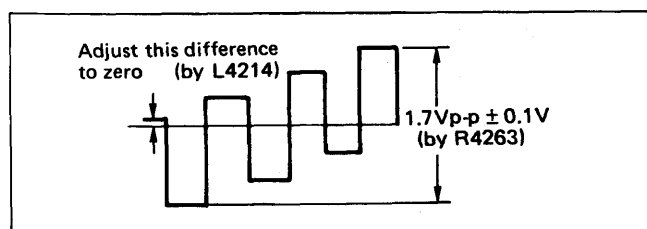

Fig. 43
- 5) Adjust R4263 and L4214 to achieve waveform as shown in Fig. 43.